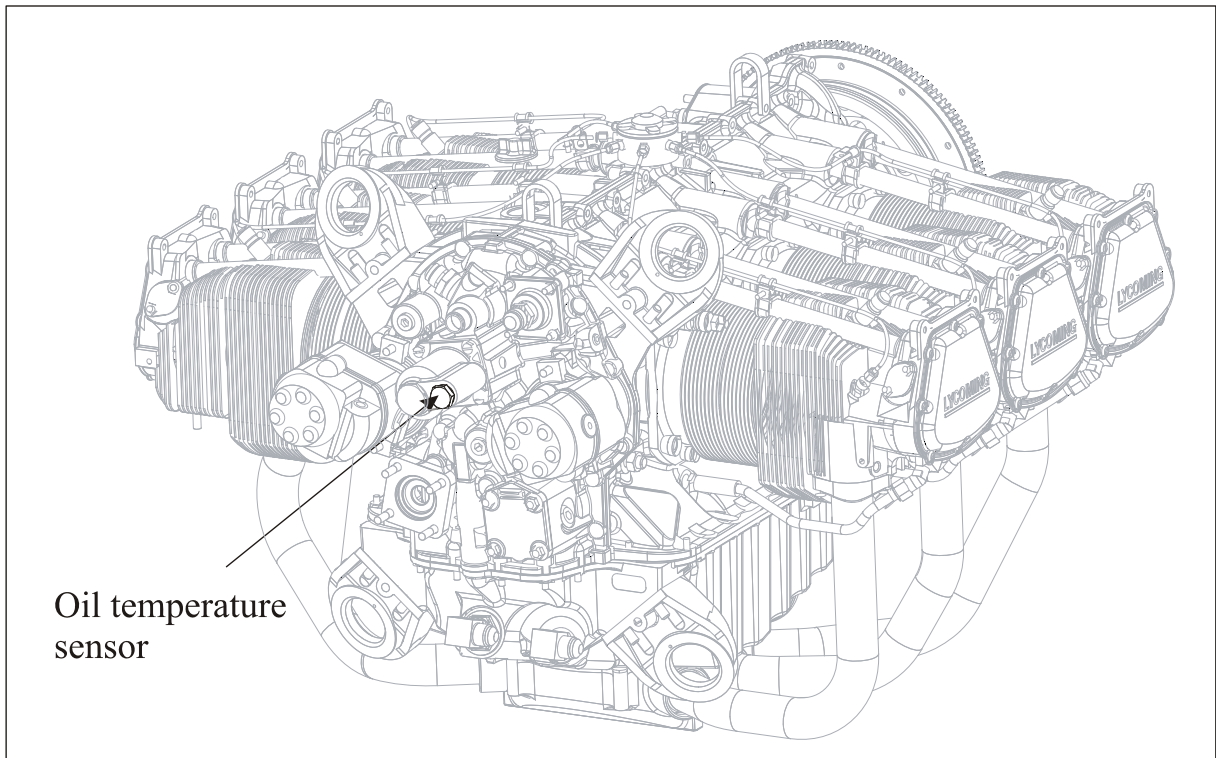

Figure 5
The oil temperature gauge is located in the rear instrument panel. The gauge receives its data electrically from a sensor located on the engine in front of the oil filter screen (refer to figure 5).
- 2 Remove oil temperature sensor (refer to figure 5).